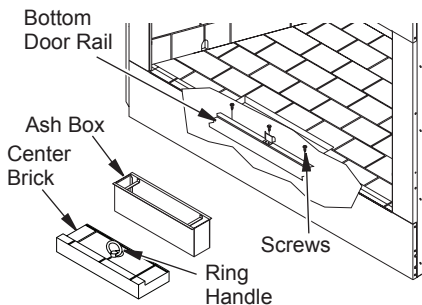

Figure 27 - Installing Bottom Door Frame
3. Remove center ash refractory by pulling ring handle (see Figure 27, page 16).
5. Remove three screws located at front of firebox (see Figure 27, page 16).